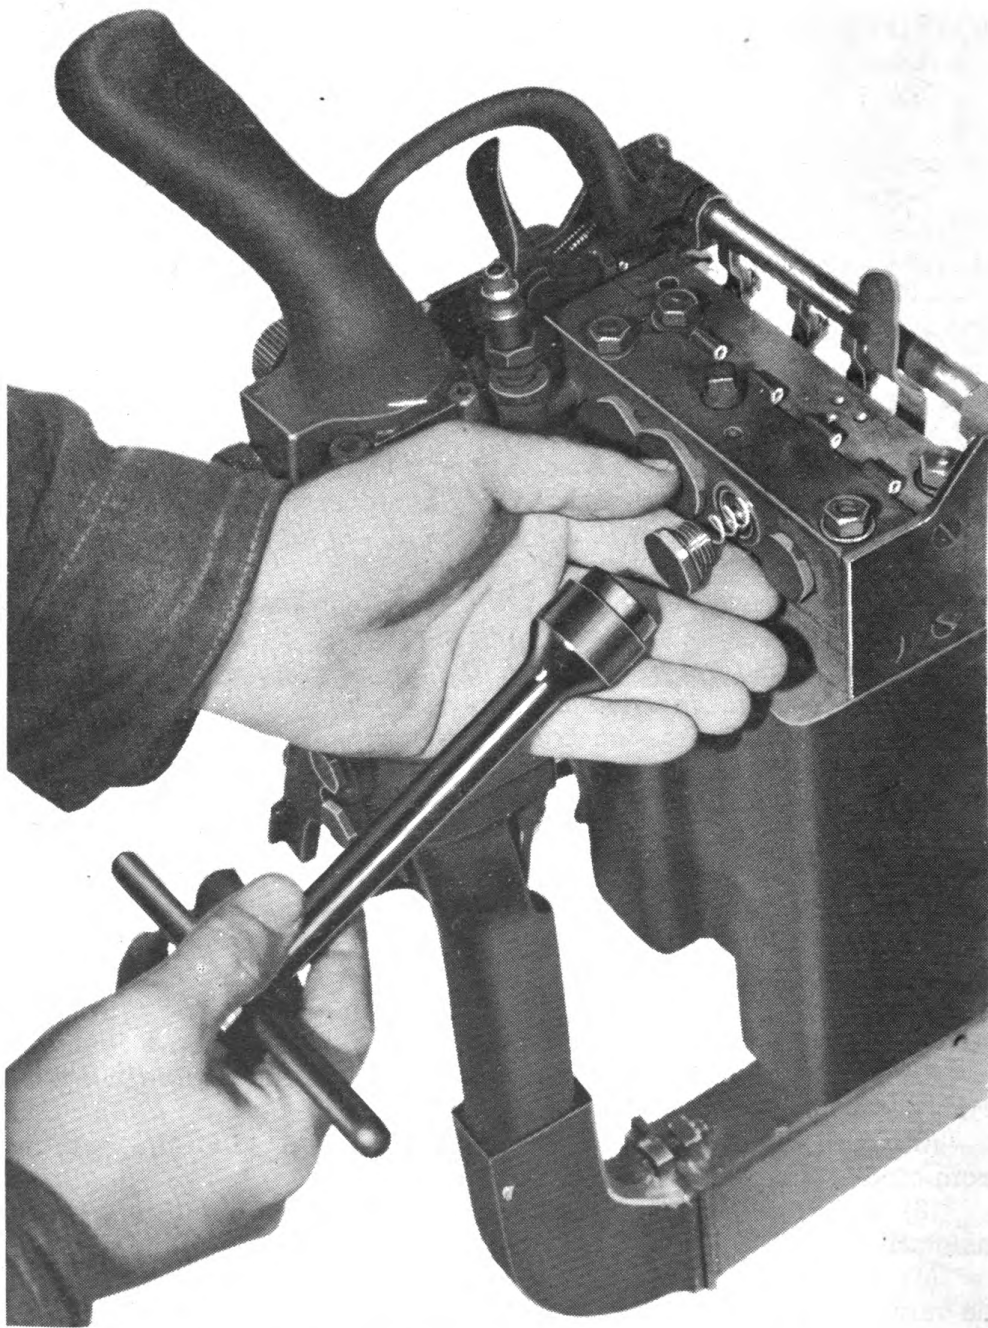

Fig. 107. Removing valve spring retainer.
(1) To remove valve assembly:
--Unscrew and remove valve spring retainer, washer, and valve spring on back of valve block of appropriate valve. Use socket head wrench (fig. 107).
(2) To replace valve, reverse procedure for removal.
f. Removal and replacement of discharge control valve (double valve). (1) To remove valve assembly: